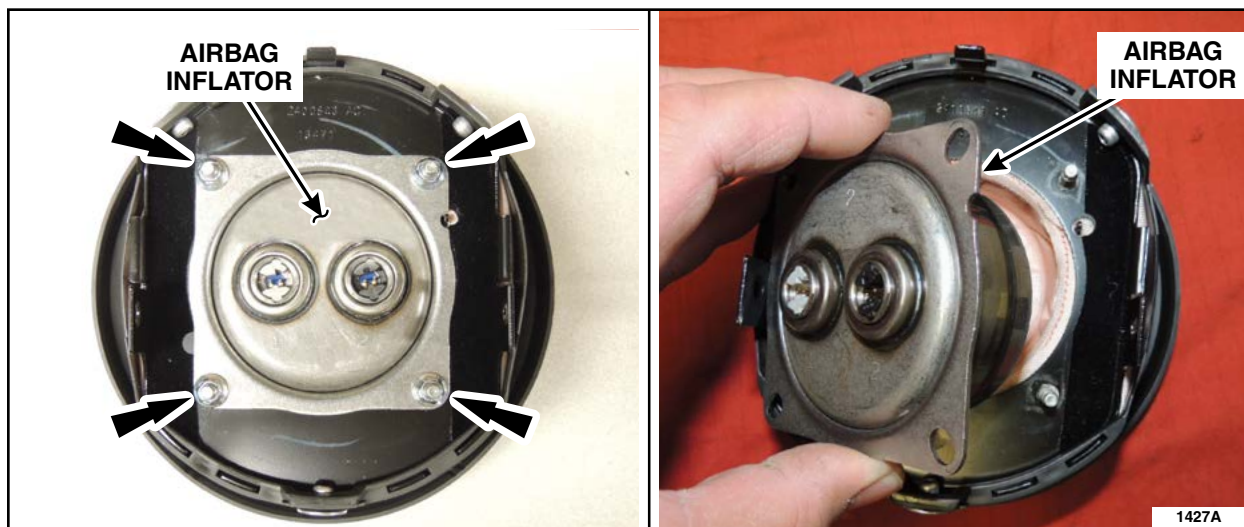

FIGURE 3
1. Remove and discard the four airbag inflator retaining nuts from the driver side airbag. See Figure 3.
Remove the airbag inflator and set aside for return shipping. See Figure 3.